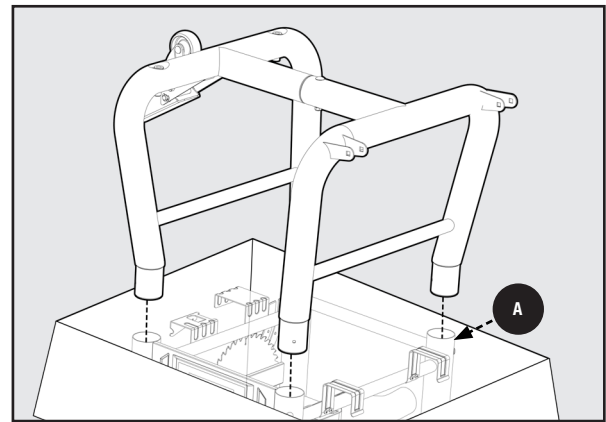

Figure 2
2. Insert the four open ends of the Tube Legs into the Leg Collars (A) as shown. Secure each Leg to the Saw Body with (4) M6 x 72mm Carriage Bolts (HP4) and (4) M6 Nylock Nuts (HP5) and tighten. See Figure 2.